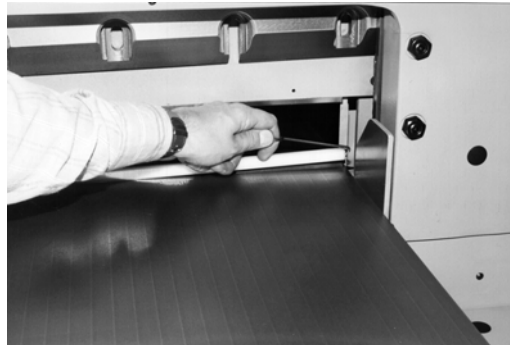

Figure 18
1. Use the cutting stick puller, (Figure 18), to remove the cutting stick. Turn the cutting stick to a new surface.